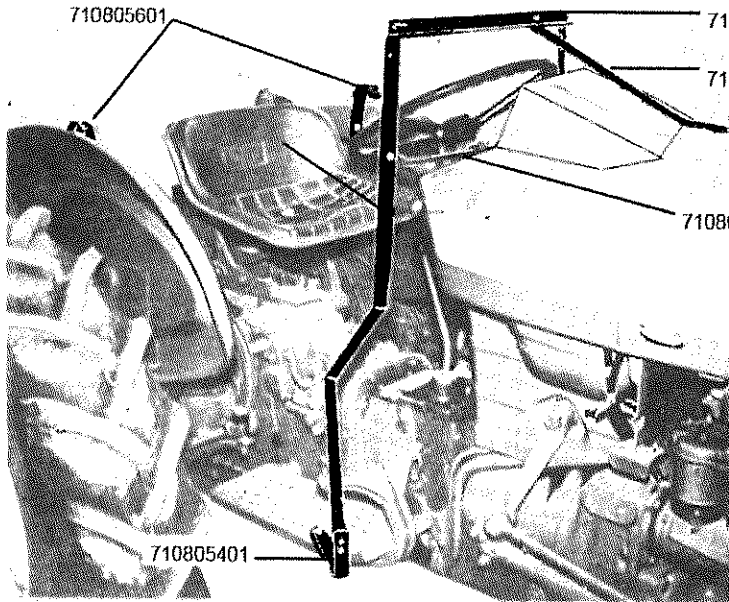

Figure 1
2. Attach # 710805401 RH Door Post Bottom to right foot rest at 2nd hole from front in second row from outside edge and 3rd hole from front in 3rd row from outside edge using 5/16x1" hex bolts and nuts. **DO NOT TIGHTEN BOLTS AT THIS TIME.** See Figure 1.
4. Attach # 710805101 LH Door Post Top to LH Door Post Bottom and # 712589601 RH Door Post Top to the RH Door Post Bottom using 5/16x3/4" hex bolts and nuts. **DO NOT TIGHTEN BOLTS AT THIS TIME.** See Figure 1 & 2
6. Slide # 712105901 Yoke into wide hem at the top of the Motor Cover. Attach each end of the Yoke to the Door Posts using 1/4x1" hex bolts and nuts. Place bolt heads to the rear and nuts to the front of the assembly, Be sure the ends of the Yoke are flush with the outside edges of the Door Posts. **DO NOT TIGHTEN BOLTS AT THIS TIME.** See Figure 1 & 2
11. Place # 710805601 Latch on LH fender so groove in Latch is up against the bottom edge of the door frame. Using the Latch as a template mark and drill 9/32" diameter holes in fender. Attach Latch to fender using 1/4x1" hex bolts and nuts. Repeat procedure on RH side. See Figure 1 & 2.